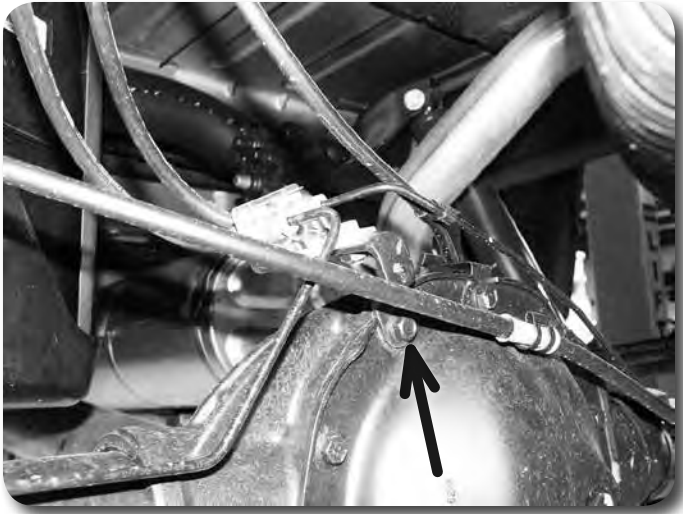

Figure 23
4. Disconnect the rear brake line bracket from the top of the differential **Figure 23**. Save hardware.